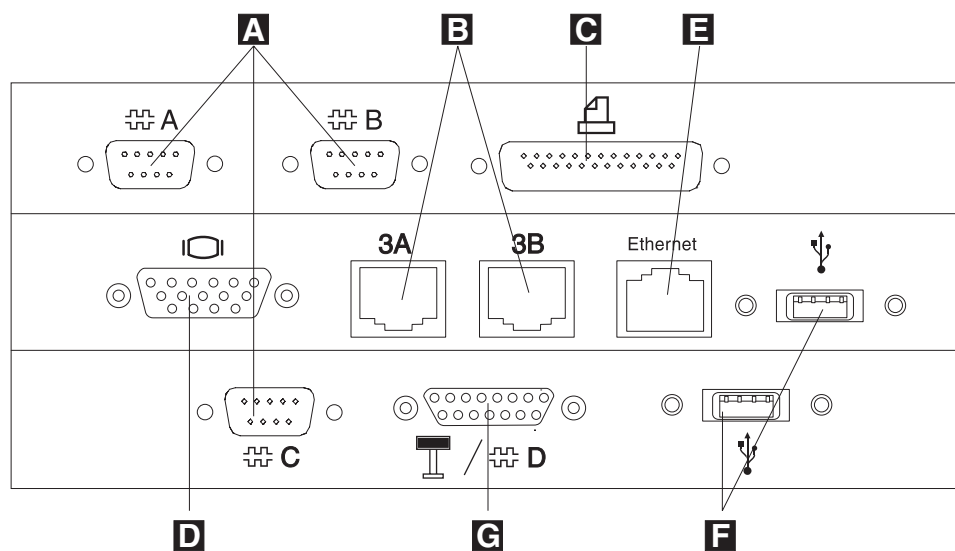
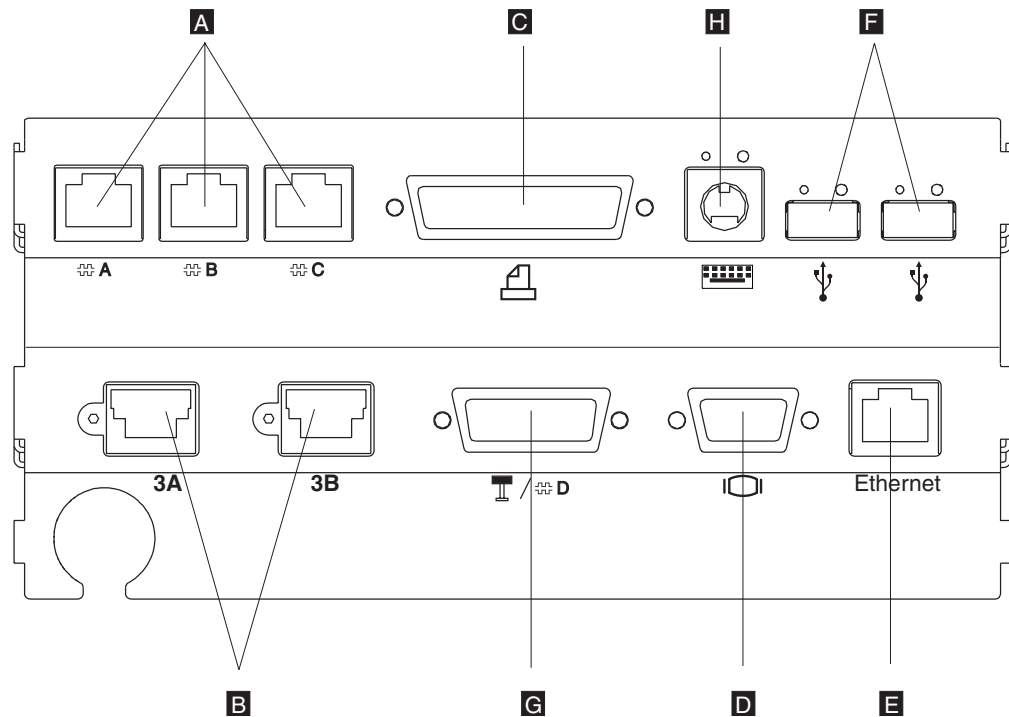

Figure 20. Rear Connector Panel, Models xx1
Figure 21. Rear Connector Panel, Models xx2
This section explains how to connect cables to the rear connector panel (shown in Figure 20 and Figure 21 on page 38), using cable-ties. Connect the cables in the lowest row first, then work upwards connecting any additional cables.
4. Connect the cables on the bottom row first, then work upward connecting any additional cables as shown in as shown in Figure 20 on page 37.